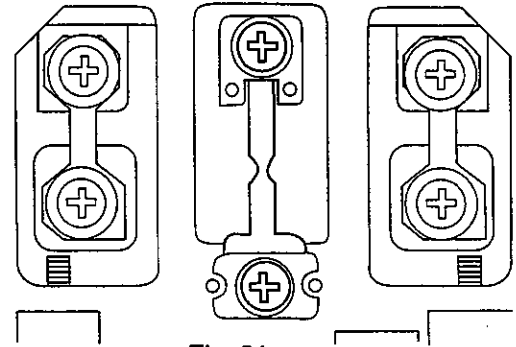

Fig. 31
**Step 11. Install and tighten the tension flexure lightly (Fig 31).**